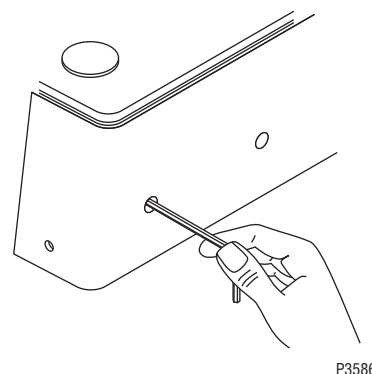

FIG 16 Adjusting Water Flow Using 1/4" allen wrench
5. Adjust the water flow rate Fig 16, (clockwise to increase flow rate; counterclockwise to decrease flow rate) to the corresponding product mix ratio as follows: